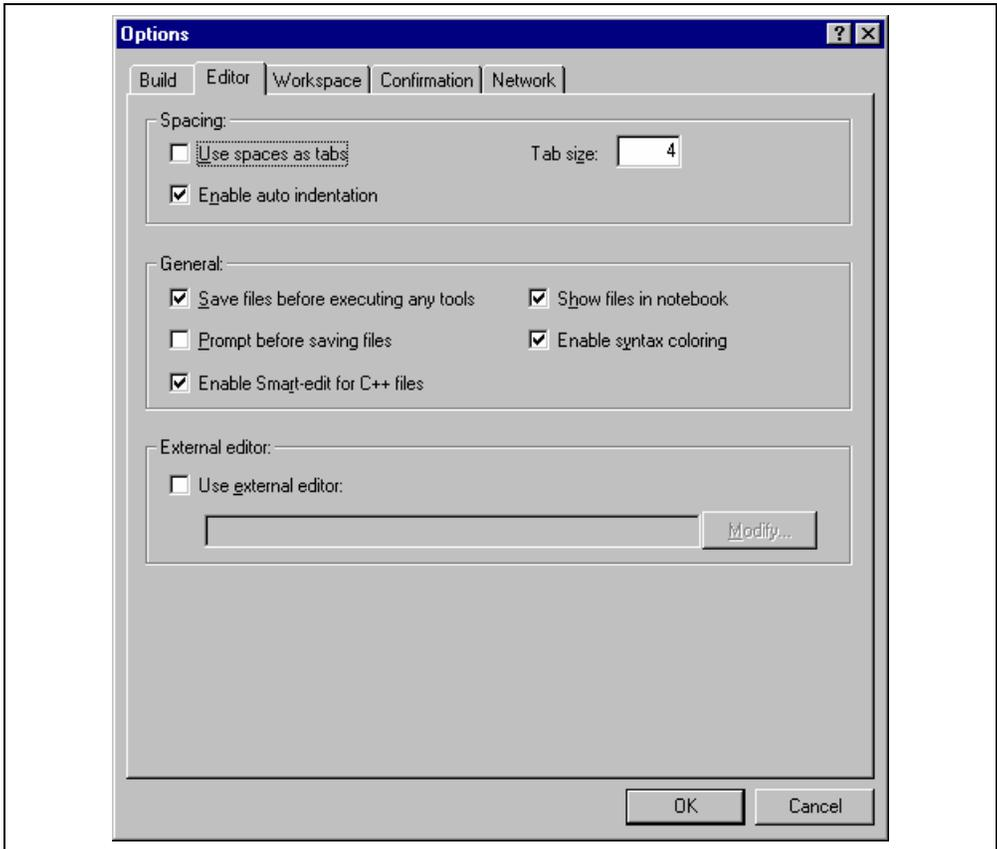

Figure 4.7: Options Dialog Editor Tab
1. Select [**Tools->Options...**]. The “Options” dialog will be displayed. Select the “Editor” tab (figure 4.7).
1. Select **[Tools->Options...]**. The "Options" dialog will be displayed. Select the "Editor" tab (figure 4.7).
- Select [**Tools->Options...**]. The “Options” dialog will be displayed. Select the “Editor” tab (figure 4.7).